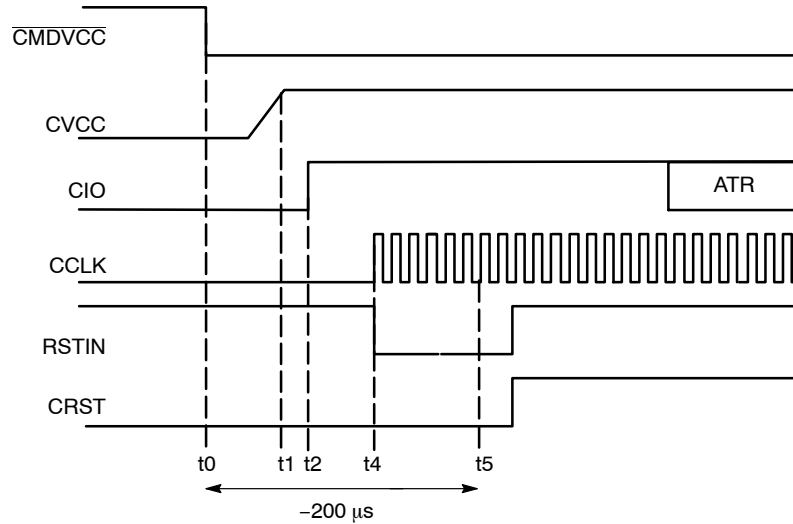

Figure 4. Activation Sequence – RSTIN mode (RSTIN Starting High)
The clock can also be applied to the card using a RSTIN mode allowing controlling the clock starting by setting RSTIN Low (Figure 4). Before running the activation sequence, that is before setting Low \overline{CMDVCC} RSTIN is set High. The following sequence is applied:
- Between t2 (Figure 4) and t5 = 200 μs, RSTIN is reset to LOW and CCLK will start precisely at this moment allowing a precise count of clock cycles before toggling CRST Low to High for ATR (Answer To Reset) request.